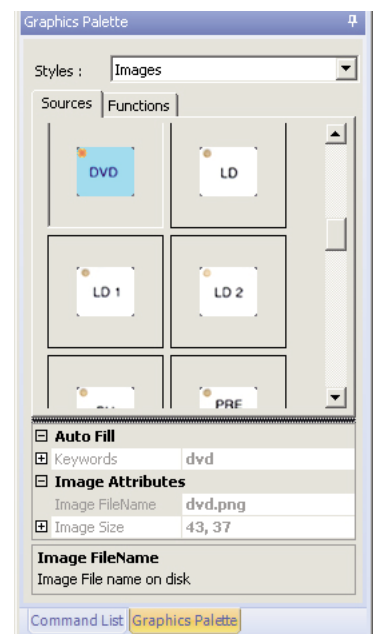

Figure 13: Waterpad Button Graphics palette
1. Select the *Graphics Palette* tab. The Macro Window will convert to the Graphic palette window (see *Figure 13*).